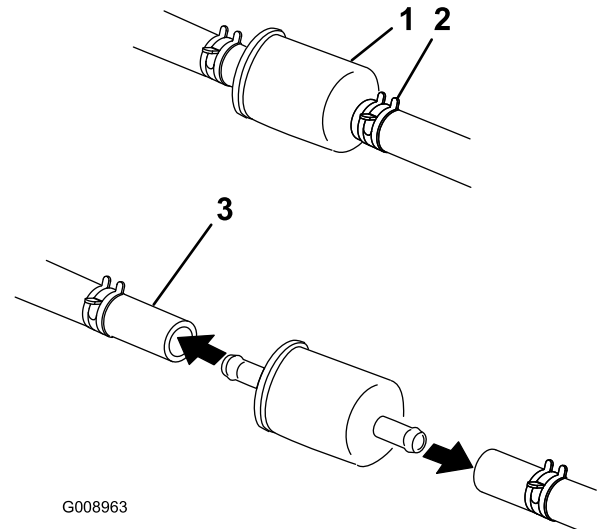

Figure 53
5. Close the fuel shutoff valve under the seat (Figure 53).
6. Squeeze the ends of the hose clamps together and slide them away from the filter (Figure 53).
8. Install a new filter and move the hose clamps close to the filter (Figure 53).